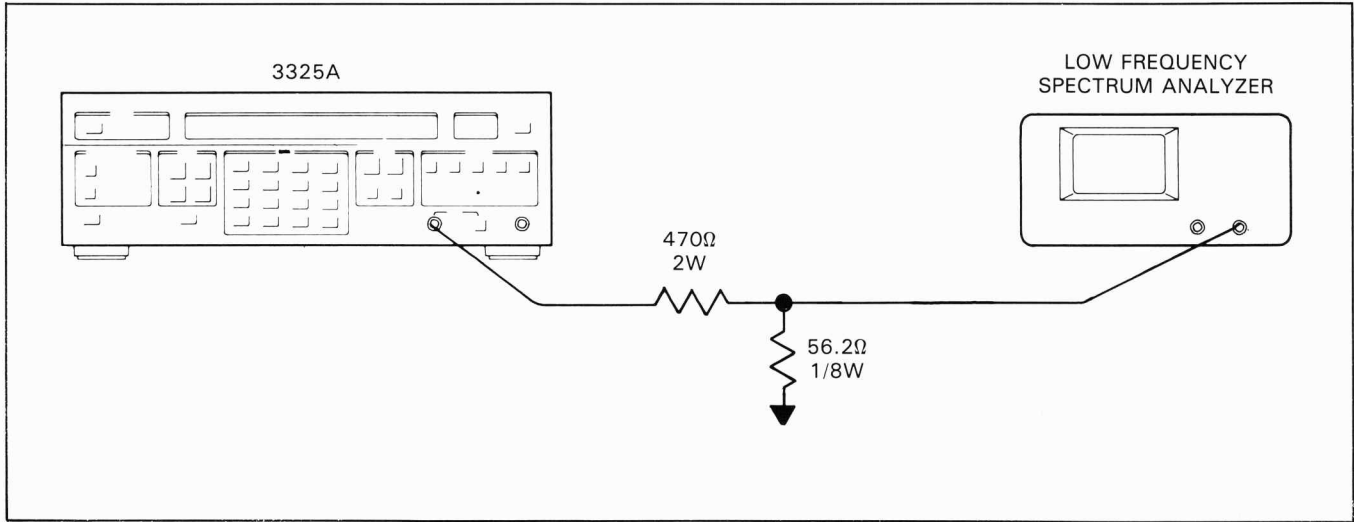

Figure 4-1. Harmonic Distortion Verification (High Voltage Output).
i. Connect the 3325A signal output to the low frequency spectrum analyzer's 50Ω input. (See Figure 4-1.)